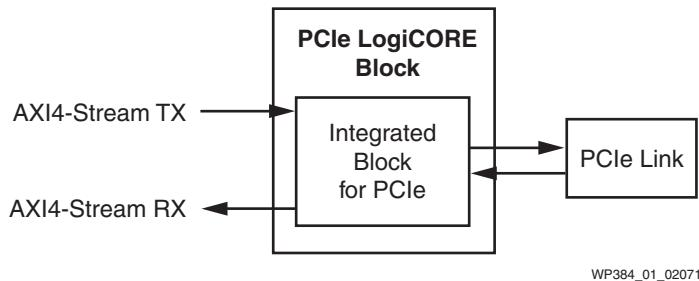

Figure 1: Basic AXI4-Stream Interface
1. Basic AXI4-Stream: This interface is analogous to the legacy TRN interface found in older Xilinx FPGA families. This interface is the easiest with which to migrate TRN-based designs to 7 series devices and consists of transmit and receive AXI4-Stream interfaces. This interface will be available for PCI Express solutions on Artix-7, Kintex-7, and Virtex-7 T FPGAs (not available on Virtex-7 XT devices). See Figure 1.